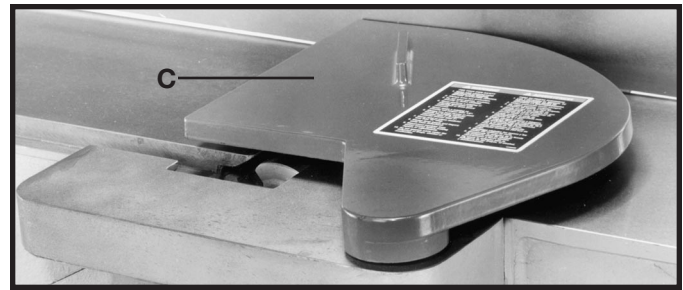

Fig. 39
2. Remove cutterhead guard (C) Fig. 39.